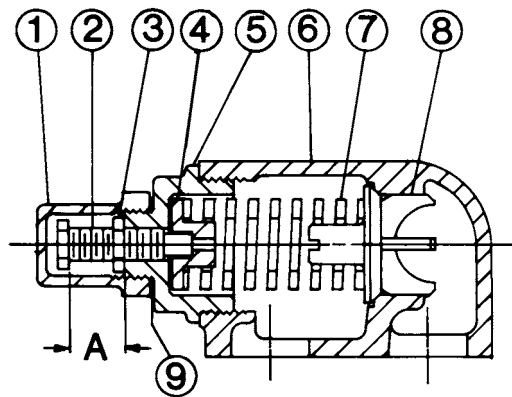

FIGURE 11
2. Measure and record the length of extension of the adjusting screw. **See "A" on Figure 11.**